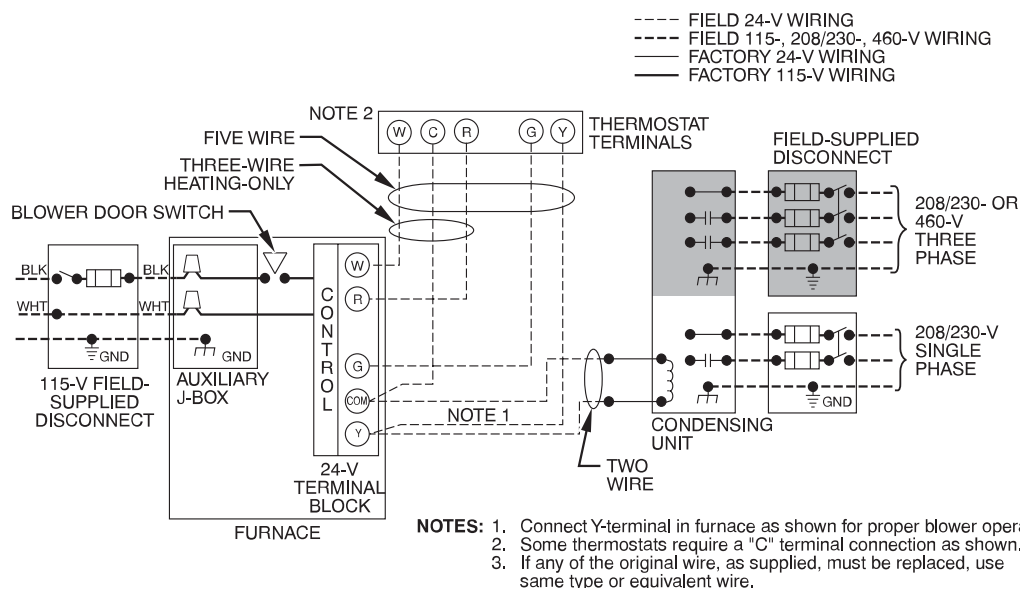

Fig. 33 – Typical Field Wiring Diagram
See Fig. 33 for field wiring diagram showing typical field 115-V wiring. Check all factory and field electrical connections for tightness.
- Connect power cord power and neutral leads to furnace power leads (Fig. 33).
- Connect field power and neutral leads to furnace power leads (Fig. 33).
Make field 24V connections at the 24V terminal strip (Fig. 38). Connect terminal Y as shown in Fig. 33 for proper cooling operation. Use only AWG No. 18, color-coded, copper thermostat wire.